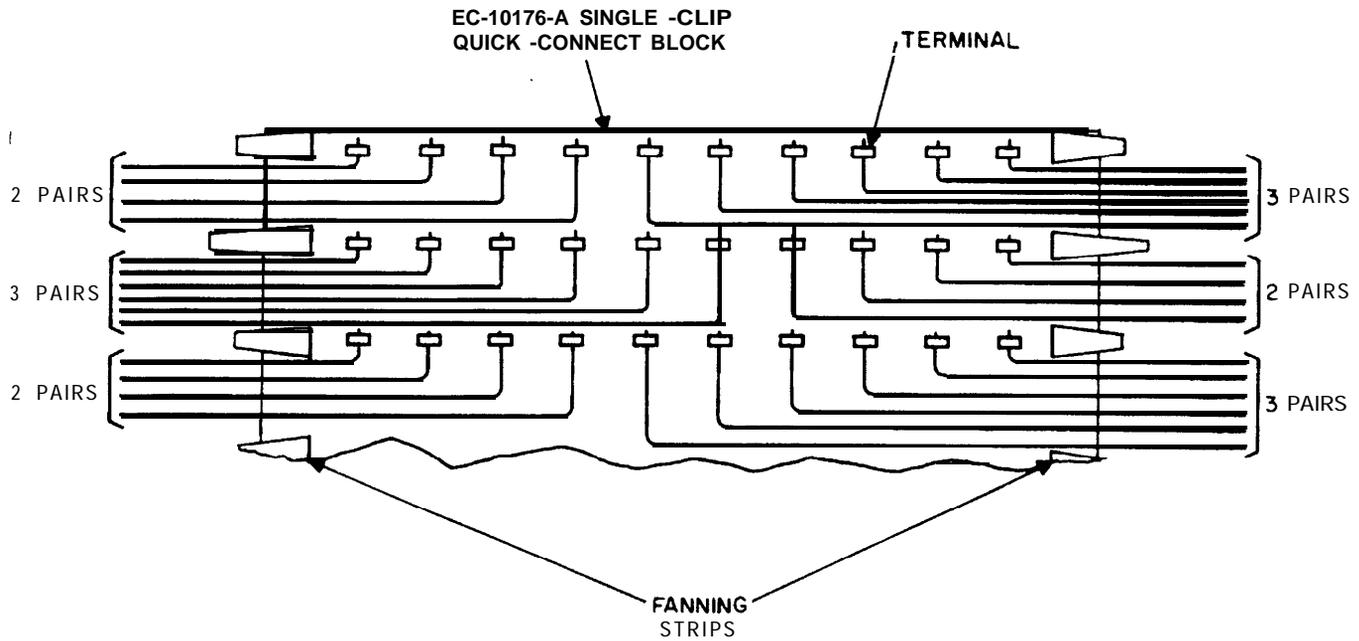
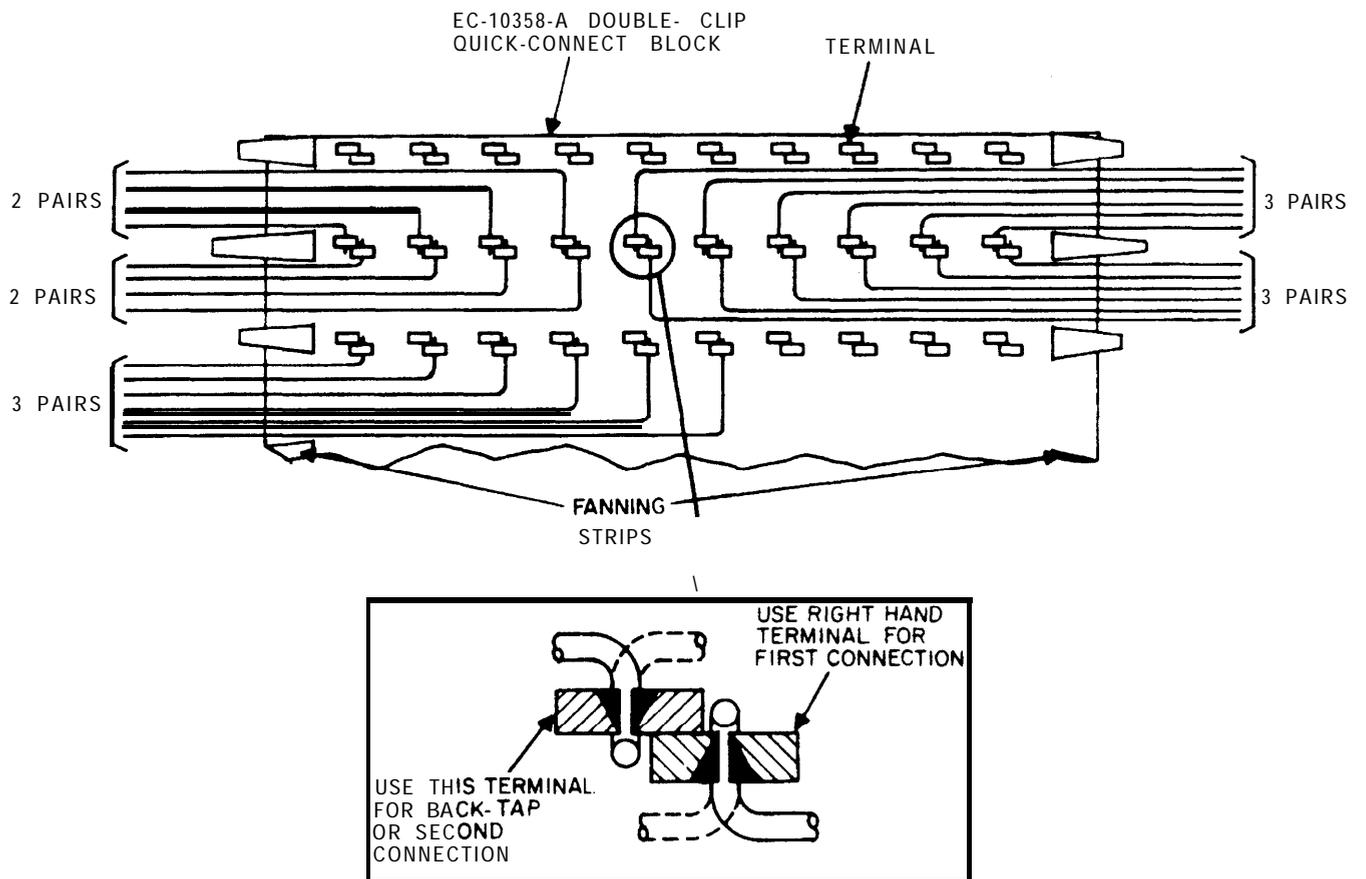

Figure 12. Dress of Jumpers on Single-Clip Quick-Connect Blocks – For Two-Wire Circuits Only.
Figure 13. Dress of Jumpers on Double-Clip Quick-Connect Blocks - For Two-Wire Circuits Only.
6.02 When jumpers are connected to terminals associated with two-wire circuits, the principle of balanced exit of the jumpers is the same as Paragraph 6.01. However, in two-wire circuits, the jumpers (tip and ring, for example) must be run together and cannot be separated. Therefore, in two-wire circuits, the jumpers must be alternated, row to row, six leads (three pairs) to the right, in the first row, the opposite in the second row. Figure 12 shows an example of jumper dressing for two-wire circuits on a single-clip quick-connect block. Figure 13, shows an example of jumper dressing for two-wire circuits on a double-clip quick-connect block.
NOTE: If multiple wiring is required (from one terminal block, through another and still onto another), the dressing for final termination should be the same as shown in Figure 13, assuming the block illustrated is the middle block and contains single-clip terminals.